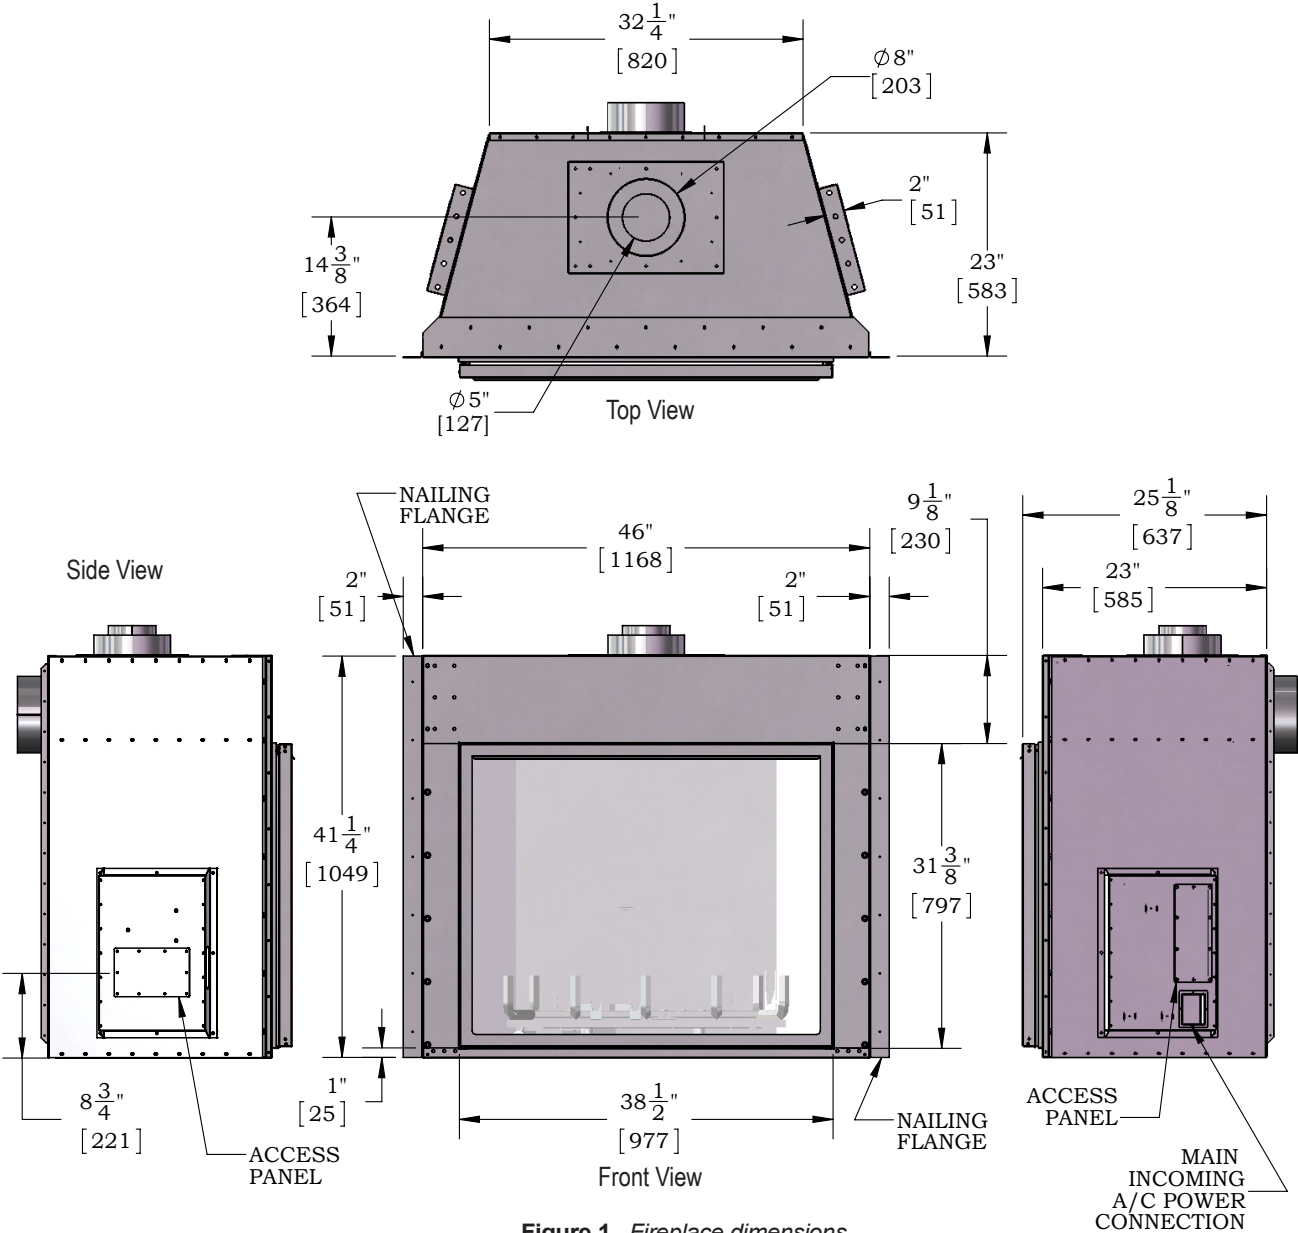

Figure 1. Fireplace dimensions.
**NOTE:** When constructing the framed opening, please ensure that your combustible 2 x 4 header is at 50" minimum and that there is access to install the gas line when the unit is installed. See Figures 1 and 2a.